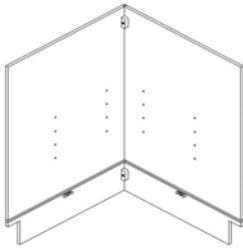

figure1
1. **Installing the side panels (Figure1):** Lock the cam with a screwdriver by turning the screw 180° clock wise.